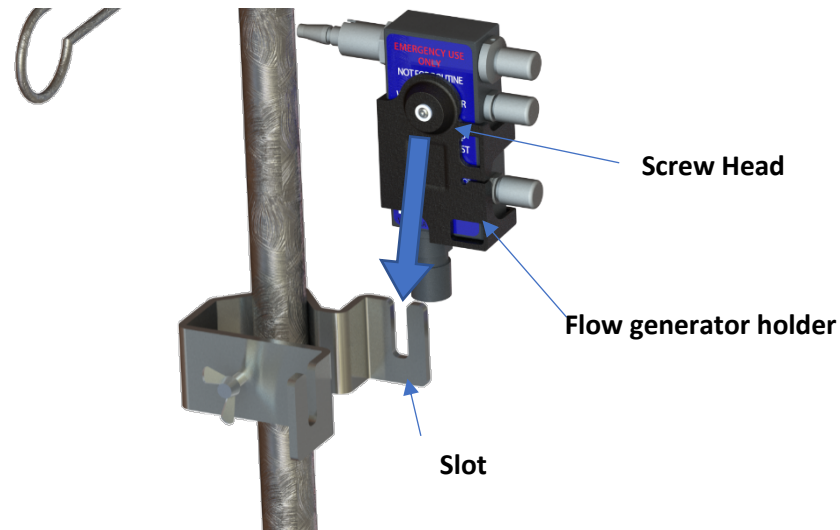

Fig. 6. Flow generator IV pole installation
7. Install the flow generator holder to the IV pole clamp by sliding the screw head into the slot of the IV pole clamp, adjacent to the V-shape feature. Note the orientation of the flow generator holder as shown in Fig. 6.